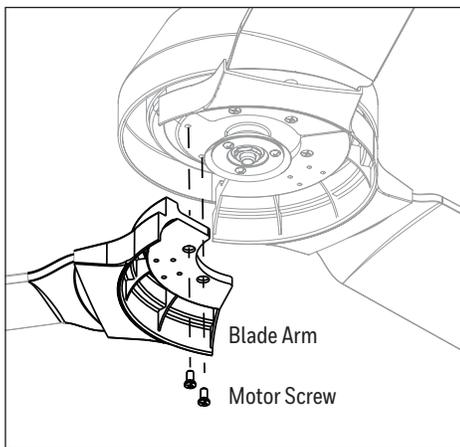

Figure 5.4
4. Install the blade arm to the underside of the motor assembly with previously removed motor screws. Tighten each blade arm completely before moving to the next (Figure 5.4).